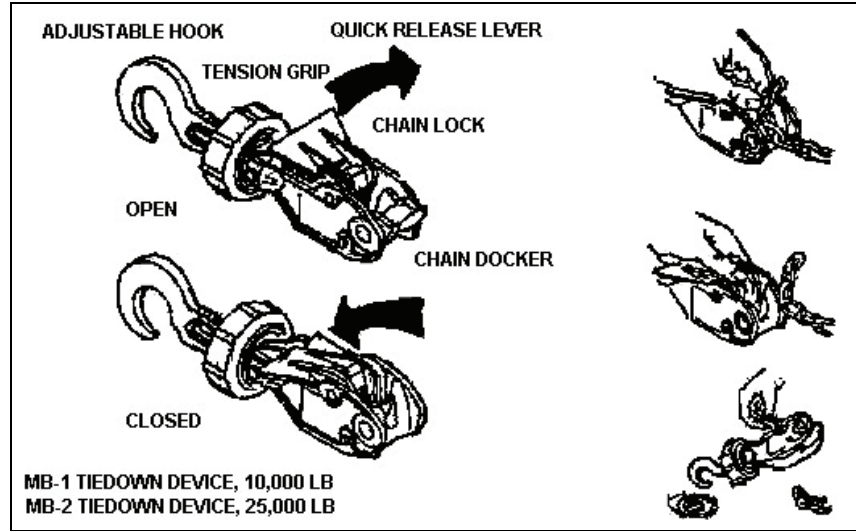

Figure 3-3. Tie-down Devices
4. Install tie-down devices (see Figure 3-3).